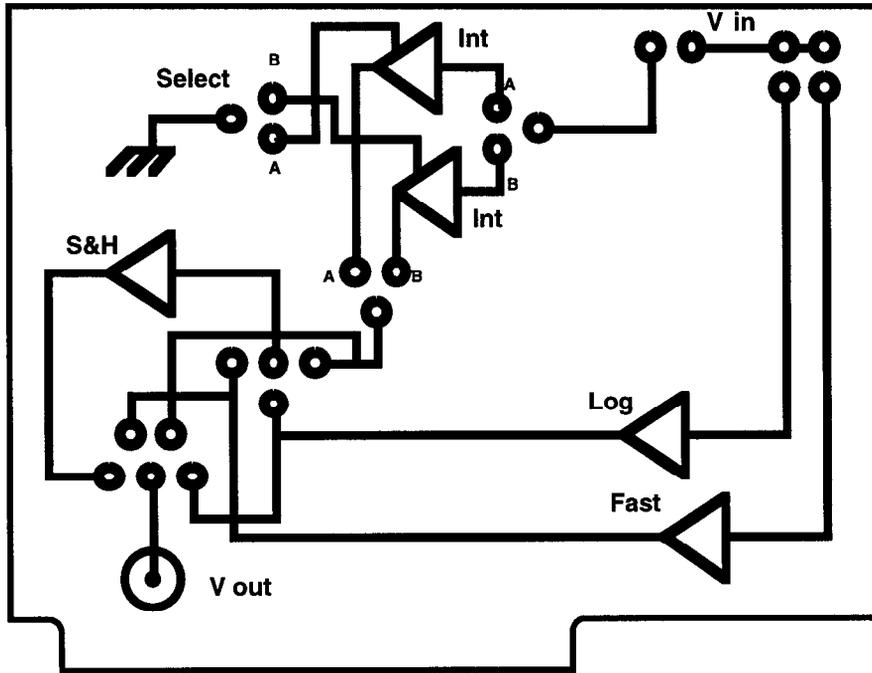

Fig 1. Beam line daughter card jumpers
4.) The daughter card can be set up to operate as a Set-Reset integrator, a fast amplifier or as a Log Amplifier (fig 1). The Integrator has a full scale range of either .14 rad or .014 rad dependent upon which branch is used. The fast amp has a rise and fall time of 1 uSec and a full scale range of .014 rad. The Log Amp has a 6 Decade dynamic range allowing loss readings from .001 rad/second to 1000 rads/second (Fig.2). One and only one of these signals can be jumper configured to provide the output to the MADC. The Daughter Card also has a track and hold circuit that can be inserted in the signal path before outputting to the MADC. The Start Track and Start Hold triggers are provided by a Camac 377 card. A timing card within the BLM Chassis fans out these triggers to the 12 Daughter cards. The Start Track signal also resets the integrator circuit when the daughter card is configured as an integrator.